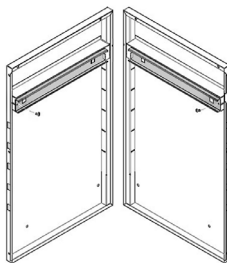

Figure 1.
1. Attach the left ball bearing slide (#5) onto the left side panel (#2) with two M4 x 10 screws (#3). Repeat on the right panel (#4) with the right ball bearing slide (#5) (Fig. 1).